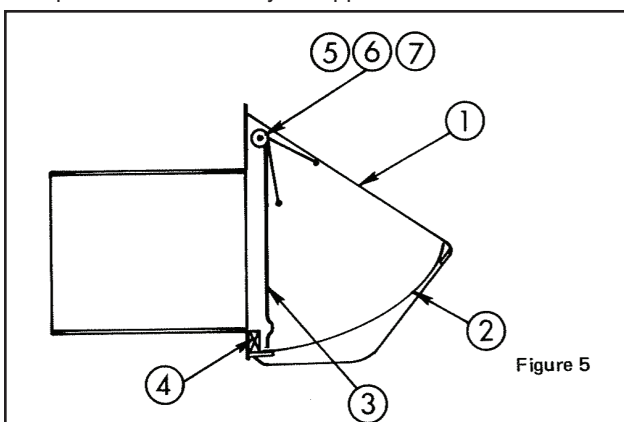

Figure 5
Plan installation carefully. Before installing wall cap, make sure that birdscreen is in place and bowed outward. Make sure that birdscreen does not interfere with movement of damper flap. Refer to Figure 5 and Step 8 under "Maintenance."
MAINTENANCE (See Figure 5)
8. Replace birdscreen. Birdscreen must bow outward as shown in Figure 5 to ensure free movement of damper flap.